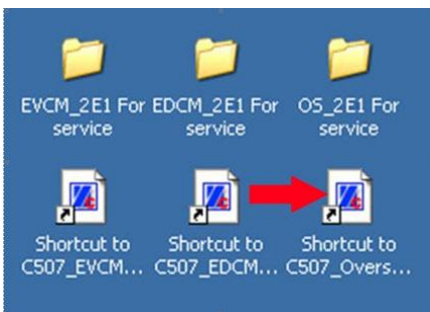

Figure 18
3.11. Double click on the "Overseer 2E1" shortcut (arrow Figure 18) on the computer's desktop to launch the calibration tool.